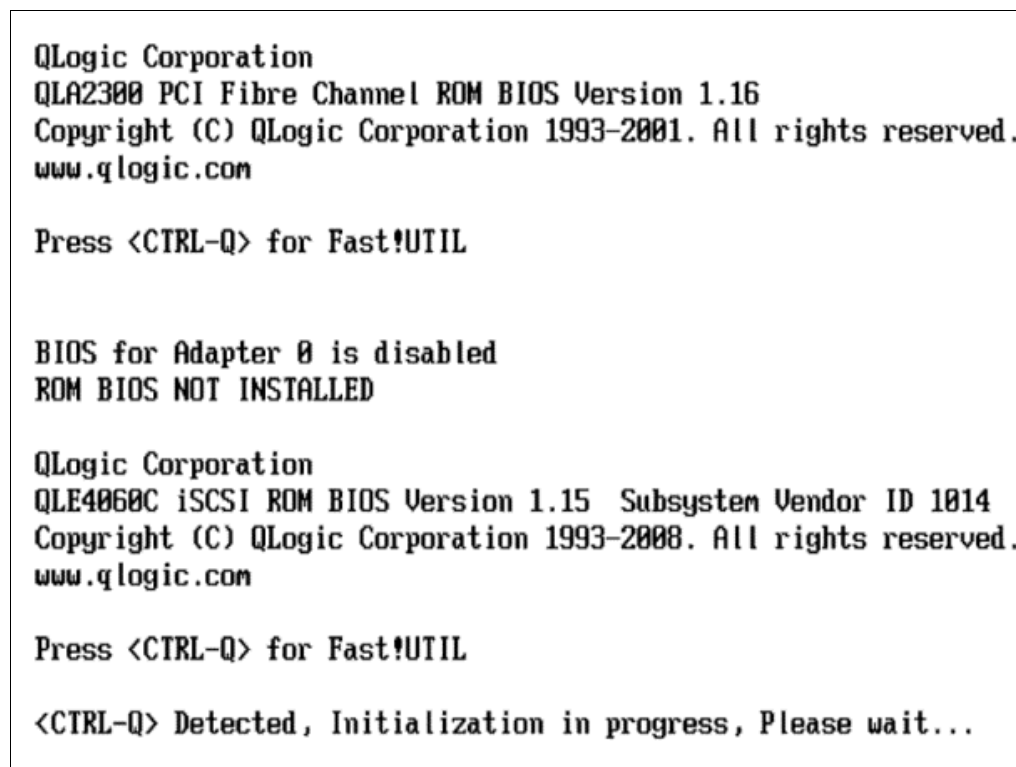

Figure 6-6 Control-Q for QLogic FastUtil!
1. On server startup and when you are prompted to launch the QLogic Corporation iSCSI BIOS, press the Ctrl+Q keys, as shown in Figure 6-6.